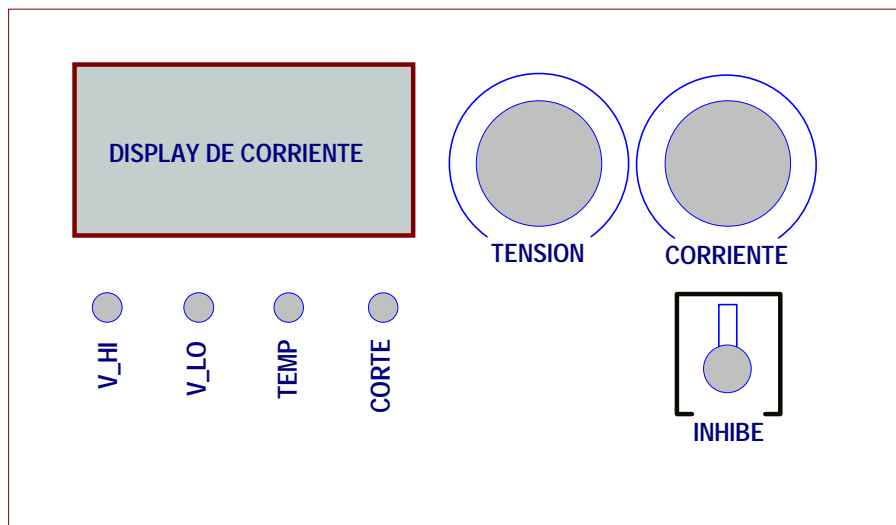

figure 4 – Diagram of the Front Panel C3b
4. In the lower part a sub-panel with controls can be seen, which allows the adjustment of the level of current and voltage and also checking the state of the system. The sub-panel with all switches and indicators is shown in **figure 4**.